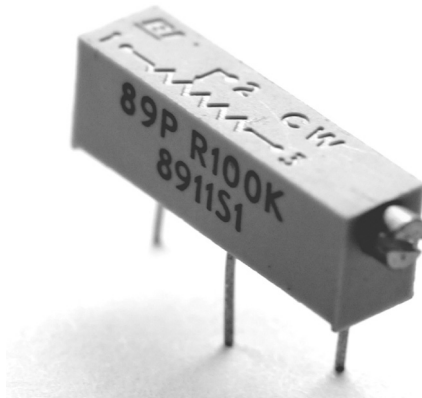

Fig. 12
- (c) Fig. 12 shows a multi-turn preset resistor, needing 10 turns to cover the full range of resistance.